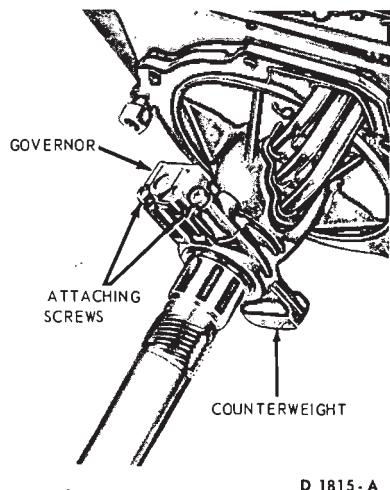

FIG. 17—Governor Installed
9. Remove the extension housing attaching bolts. Slide the housing off the output shaft and remove the gasket. Remove the governor to counterweight attaching screws. Lift the governor from the counterweight (Fig. 17). When removing the extension housing and/or governor, hold the output shaft and rear support from moving rearward to prevent the needle bearing and race from dropping out of location.